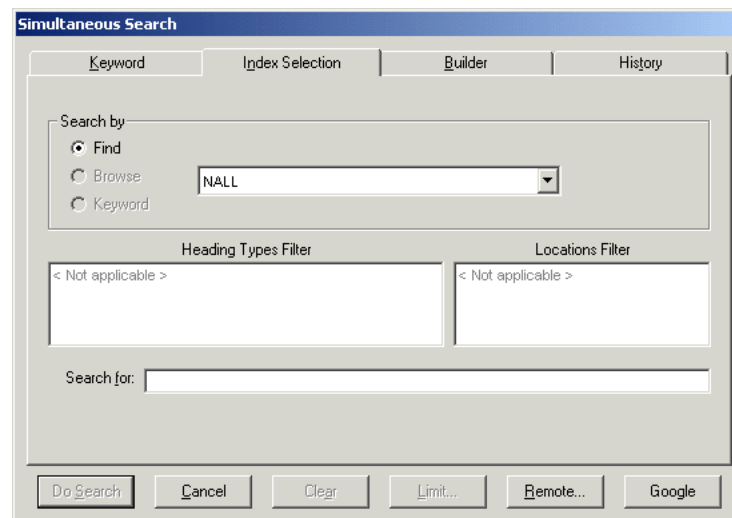

Figure 2-62. Simultaneous Search dialog box
- If you are connecting to more than one database, the **Simultaneous Search** dialog box opens (see Figure 2-62). The types of searches available are limited to those shared by all connected databases.